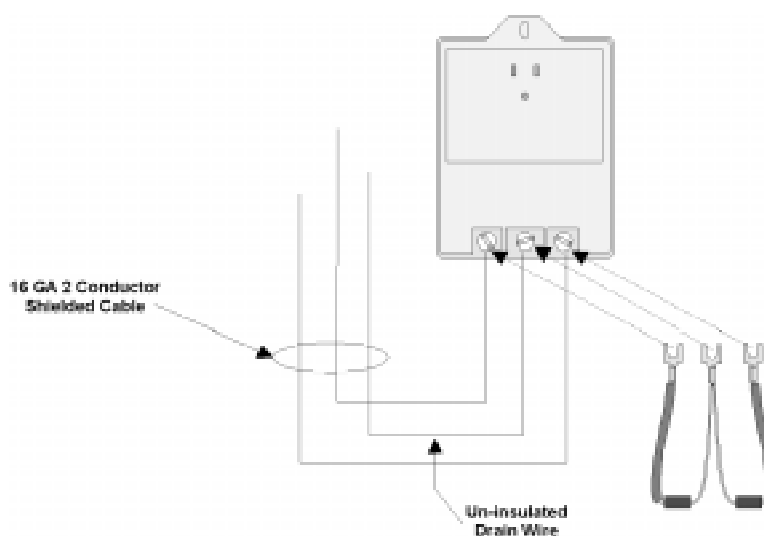
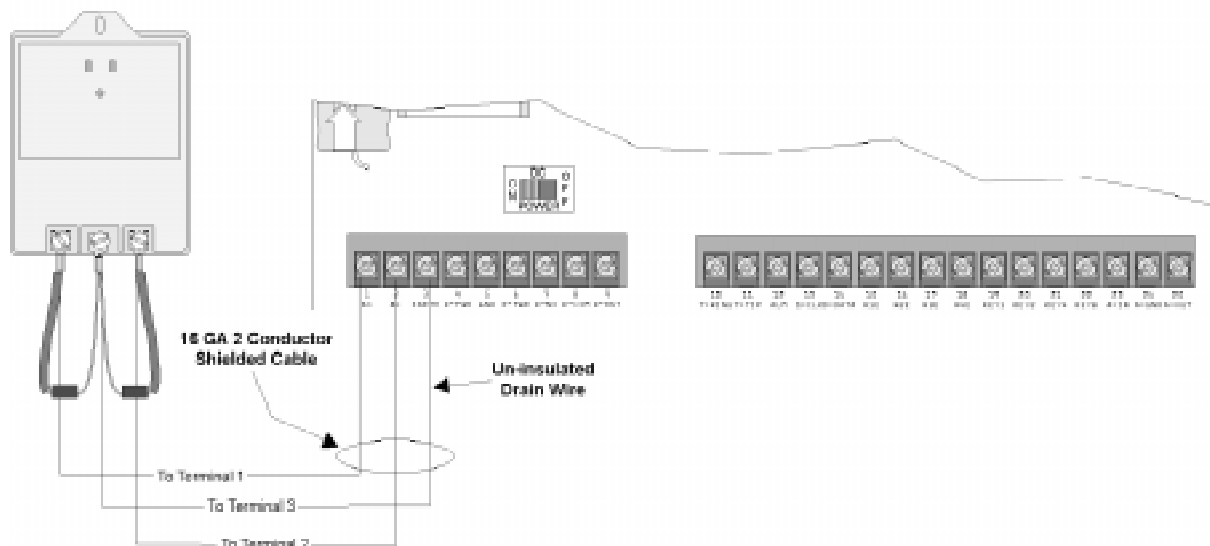

Figure 3-9: Attaching the 7890 to the 9220
Figure 3-10: 7890 Attached to the 9220 AC transformer
3. Attach the Model 7890 Transient Protector as shown in Figure 3-9 and Figure 3-10.
4. Connect the other end of the shielded cable to the 5073/5074 Entry System terminals 1 through 3 as shown in Figure 3-10.